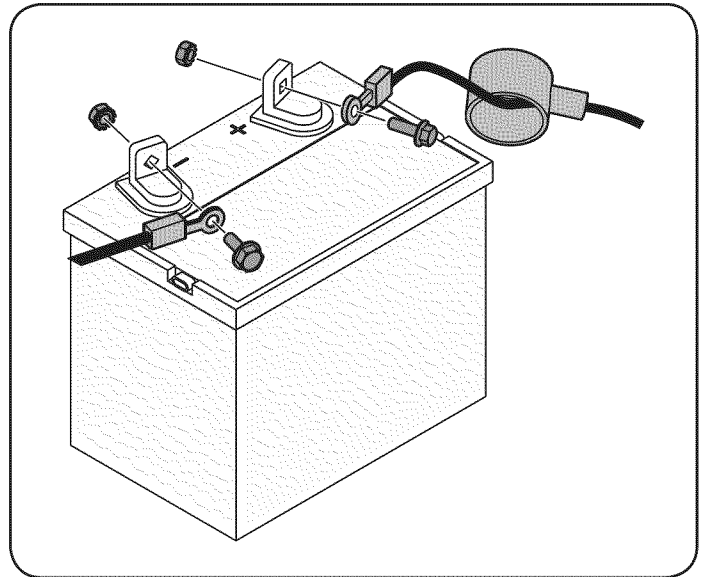

Figure 5
1. Remove the plastic cover, if present, from the positive battery terminal and attach the red cable to the positive battery terminal (+) with the bolt and hex nut. See Figure 5.
2. Remove the plastic cover, if present, from the negative battery terminal and attach the black cable to the negative battery terminal (-) with the bolt and hex nut. See Figure 5.